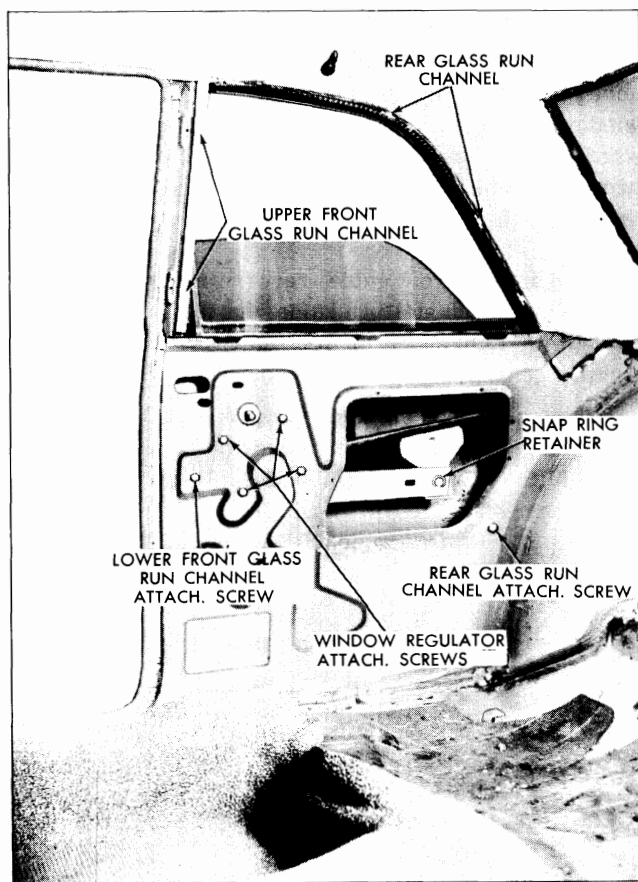

Fig. 4-5 Rear Quarter Hardware Manual - 11 Style
2. Remove snap ring retainer securing regulator lift arm to pivot pin on window lower sash channel. (Fig. 4-5)
a. Operate the window to the "full-up" position and loosen the window regulator attaching screws (Fig. 4-5).
a. Loosen rear glass run channel attaching screw (Fig. 4-5).
2. Remove snap ring retainer securing regulator lift arm to pivot pin on window lower sash channel (Fig. 4-5).
4. Remove regulator attaching screws (Fig. 4-5) and remove regulator through access hole.
2. Remove lower front glass run channel attaching screw (Fig. 4-5) and remove run channel through access hole.
2. Remove rear glass run channel attaching screw (Fig. 4-5).
2. Disengage window from regulator lift arm by removing snap ring retainer (Fig. 4-5)